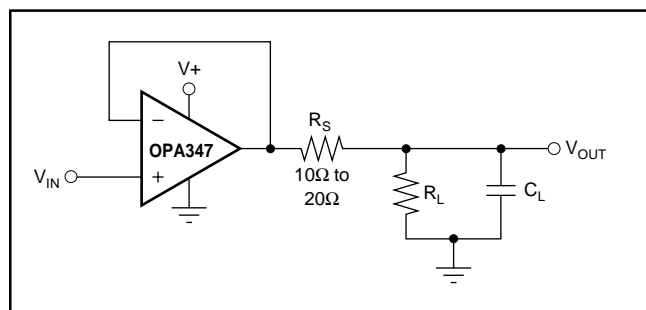

FIGURE 6. Series Resistor in Unity-Gain Buffer Configuration Improves Capacitive Load Drive.
The OPA347 in a unity-gain configuration can directly drive up to 250pF pure capacitive load. Increasing the gain enhances the amplifier’s ability to drive greater capacitive loads (see the characteristic curve “Small-Signal Overshoot vs Capacitive Load”). In unity-gain configurations, capacitive load drive can be improved by inserting a small (10 $\Omega$  to 20 $\Omega$ ) resistor,  $R_S$ , in series with the output, as shown in Figure 6. This significantly reduces ringing while maintaining DC performance for purely capacitive loads. However, if there is a resistive load in parallel with the capacitive load, a voltage divider is created, introducing a Direct Current (DC) error at the output and slightly reducing the output swing. The error introduced is proportional to the ratio  $R_S/R_L$ , and is generally negligible.